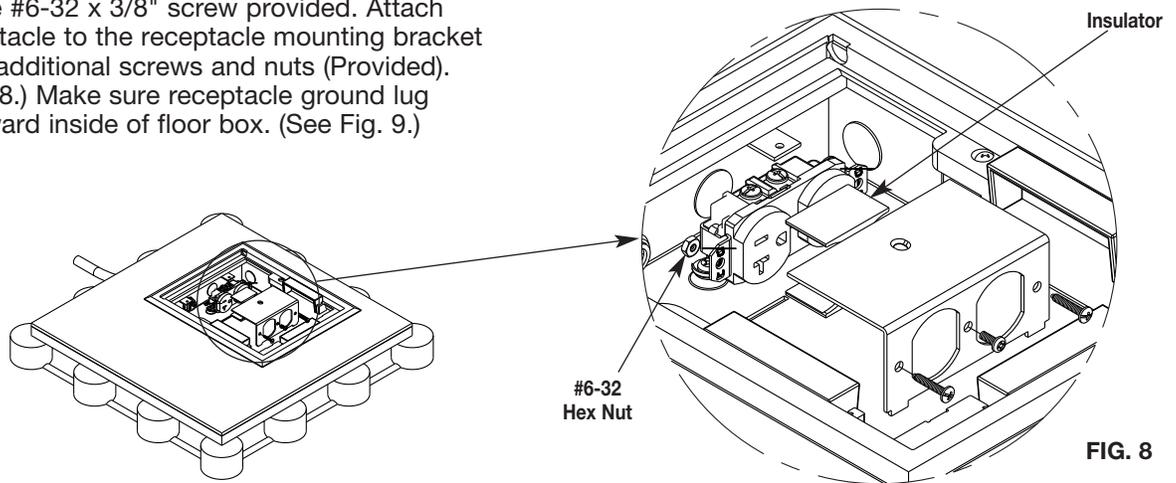
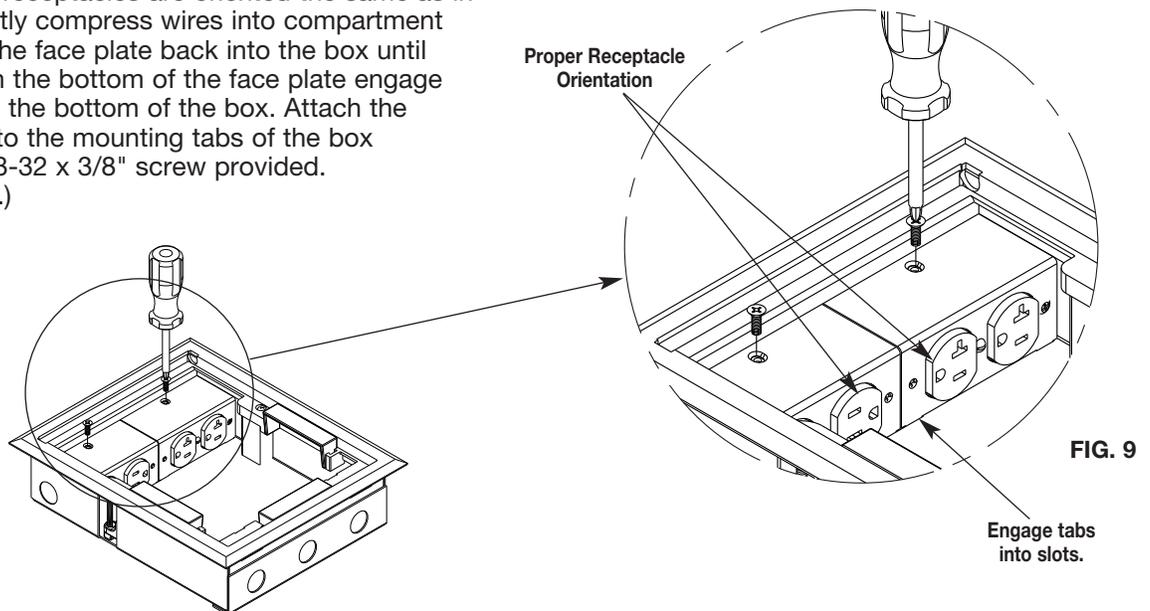

FIG. 8
FIG. 9
Step 7 Attach insulator and faceplate to receptacle using one #6-32 x 3/8" screw provided. Attach the receptacle to the receptacle mounting bracket with two additional screws and nuts (Provided). (See Fig. 8.) Make sure receptacle ground lug faces toward inside of floor box. (See Fig. 9.)
Step 8 Make sure receptacles are oriented the same as in Fig. 9. Neatly compress wires into compartment and push the face plate back into the box until the tabs on the bottom of the face plate engage the slots in the bottom of the box. Attach the face plate to the mounting tabs of the box using (1) #8-32 x 3/8" screw provided. (See Fig. 9.)